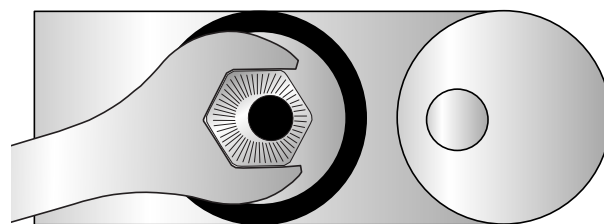

Figure 1: Outer Bush Caster Adjustment - Sleeve Position for maximum negative camber
8. After reaching desired camber angle, adjust the caster angle on the inner sleeve with the 34AF spanner according to Figure 1.